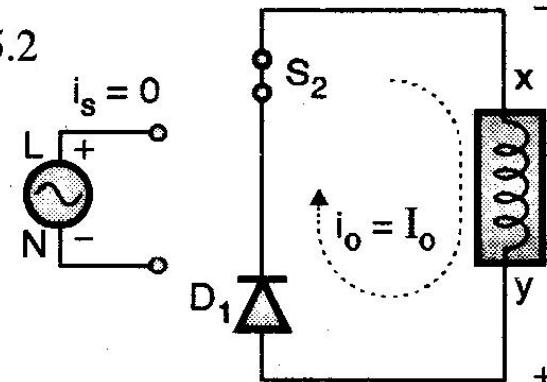

Fig. 2.19(f) : Mode IV freewheeling
- This time it is through the already conducting SCR S_2 and diode D_1 as shown in Fig. 2.19(f).